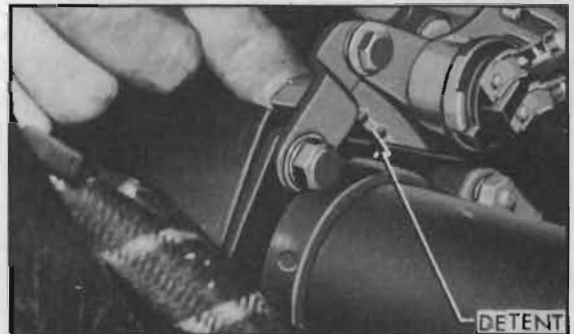

Figure 1-9—Dynaflow Transmission Control Detent
16. *Control Detent—Dynaflow Drive.* Apply a small amount of Lubriplate or chassis lubricant to notches of control detent at base of steering column. See figure 1-9.